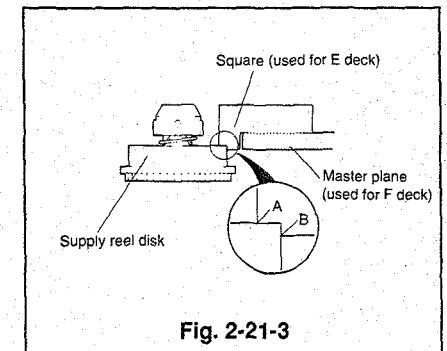

Fig. 2-21-3
- 3 Place the height adjusting jig [square](used for E deck: Part No.859C341070) on the jig, previously installed placed in Item ②, as shown in Fig. 2-21-3. Make sure that the height is correct (between A and B).